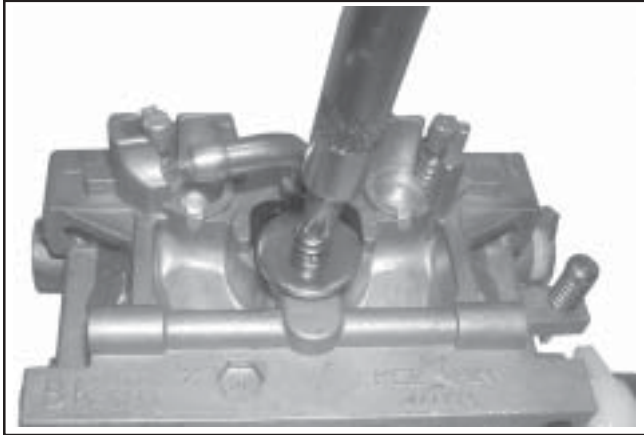

Figure 5-25. Removing Screw and Washer.
4. Remove the screw securing the flat washer and ground lead (if equipped), from the top of the carburetor; then carefully pull (lift) out the two slow jets. The slow jets may be sized/side specific, mark or tag for proper reassembly. Note the small O-Ring on the bottom of each jet. See Figures 5-25 and 5-26. Save parts for cleaning and reuse unless a Jet Kit is also being installed. Clean the slow jets using compressed air. Do not use wire or carburetor cleaner.